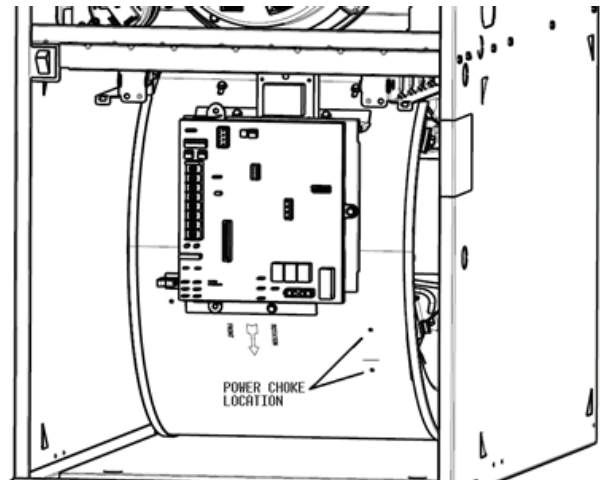

Fig. 1 – Power Choke Location
1. Locate existing holes on the front of the blower housing that will be used to mount the power choke. See Fig 1.